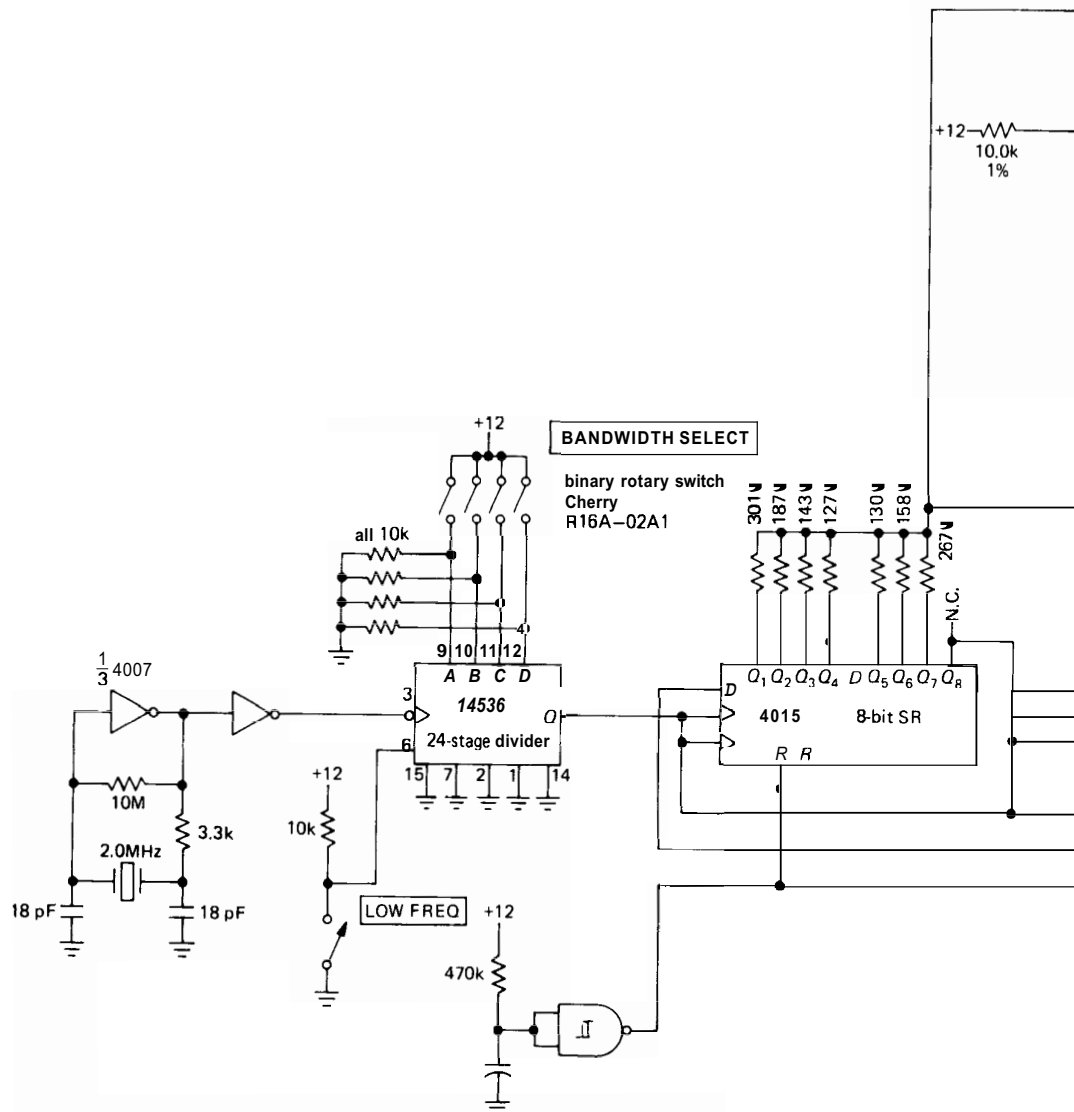

Figure 9.90. Wide-frequency-range laboratory noise source.
The circuit in Figure 9.90 generates pseudo-random analog noise, with bandwidth selectable over an enormous range, using this technique. A 2.0MHz crystal oscillator drives a 14536 24-stage programmable divider, generating clock frequencies going from 1.0MHz down to 0.12Hz by factors going from 1.0MHz down to 0.12Hz by factors of 2. A 32-bit shift register is connected with feedback from stages 31 and 18, generating a maximal-length sequence with 2 billion states (at the maximum clock frequency the register completes one cycle in a half hour). In this case we have used a $(\sin x)/x$ weighted sum over 32 successive values of the sequence. U_1 and U_2 amplify the inverted and noninverted terms, respectively, driving differential amplifier U_3 . The gains are chosen to generate a 1.0 volt rms output with no dc offset into a 50 ohm load impedance (2.0V rms open circuit). Note that this noise amplitude is independent of the clock rate, i.e., the total bandwidth. This digital filter has a cutoff at about $0.05f_{\text{clock}}$, giving a white noise output spectrum extending from dc to 50kHz (maximum clock frequency) down to dc to 0.006Hz (minimum clock frequency), in 24 steps of bandwidth. The circuit also provides an unfiltered output waveform, going between +1.0 volt and -1.0 volt.
Figure 9.90 cont.
3. Verify that the peak output of the pseudo-random-noise generator (Fig. 9.90) is ± 8.68 volts.